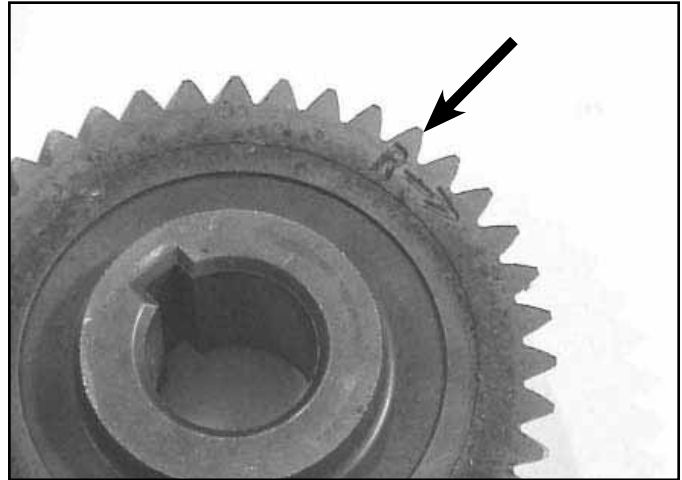

Fig 094
3. Insert the key into the shaft and slide the worm gear into place. **Note:** There is a large letter R and an arrow stamped into the side of the gear. This gear **MUST** be installed such that the R and the arrow are on the right hand side and the arrow is pointing forward, from the operator's point of view (Fig. 094). This is a two-piece gear that is bonded together. If it is installed backwards, the forces try to separate the gear and can result in failure.